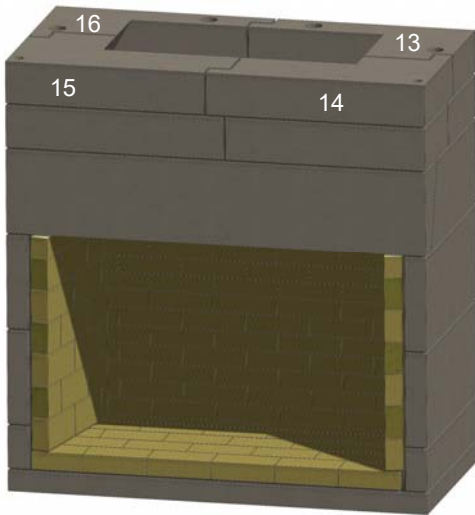

Figure 15. Middle Throat Level
J. Install second ring of four throat components (Items 13, 14 15 16). Check with a level. See Figure 15.